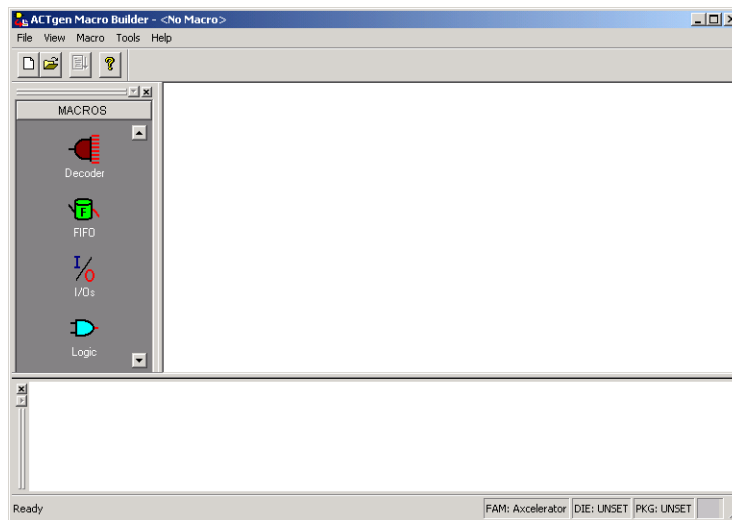

Figure 3 • Selecting the I/O Macro
- Click on the I/O Icon under the Macro window (Figure 3 on page 2).